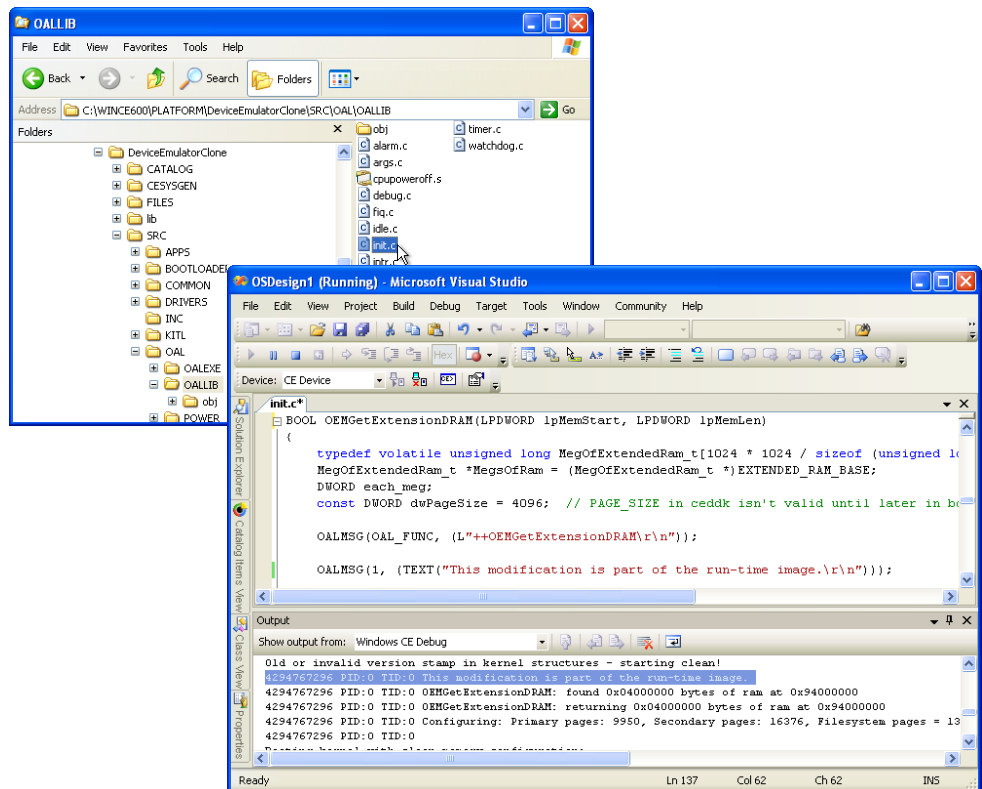

Figure 5-12 DeviceEmulatorClone BSP customization
2. In Visual Studio, open the `init.c` source code file that you can find in the `%_PLATFORMROOT%\DeviceEmulatorClone\Src\Oal\Oallib` folder, as illustrated in Figure 5-12.